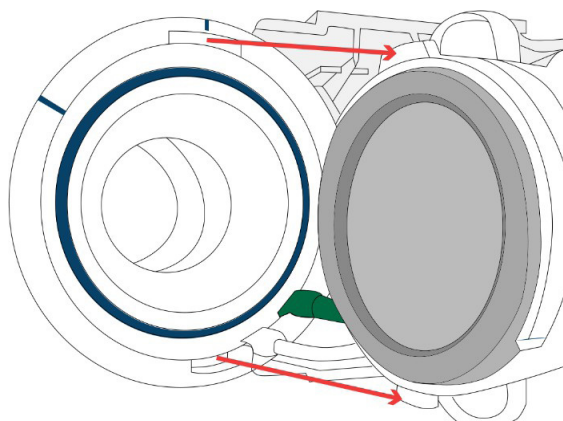

Figure 10 - Alignment of Flowhead Subject End and Heater Assembly
6. Fit Flowhead Subject End to Heater Assembly by lining up large and small alignment keys as in Figure 10 and then turning the parts clockwise to the lock position. This forms the Flowhead.